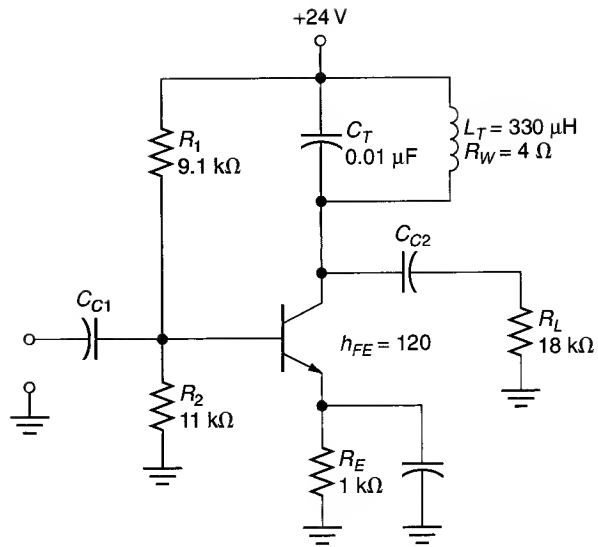

FIGURE 17.63
35. The inductor in Figure 17.63 is replaced by one with a winding resistance of $17\ \Omega$. Calculate the shift that occurs in each of the cutoff frequencies as a result of this change.